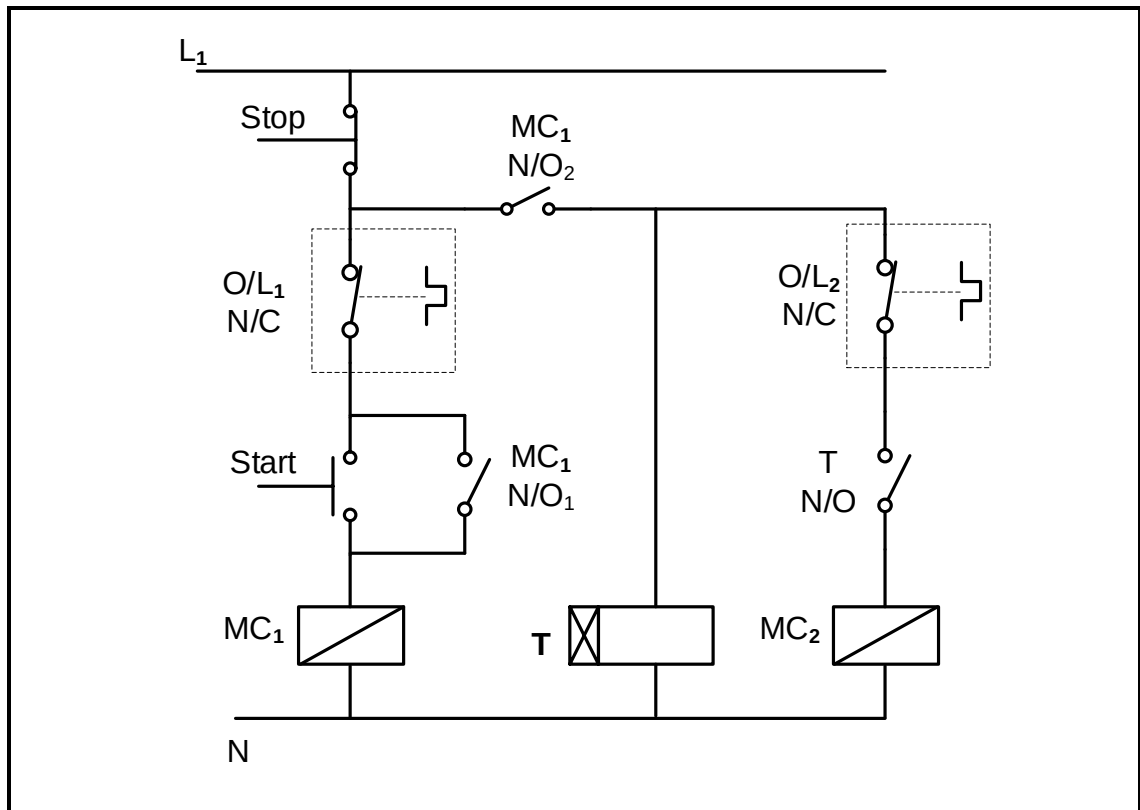
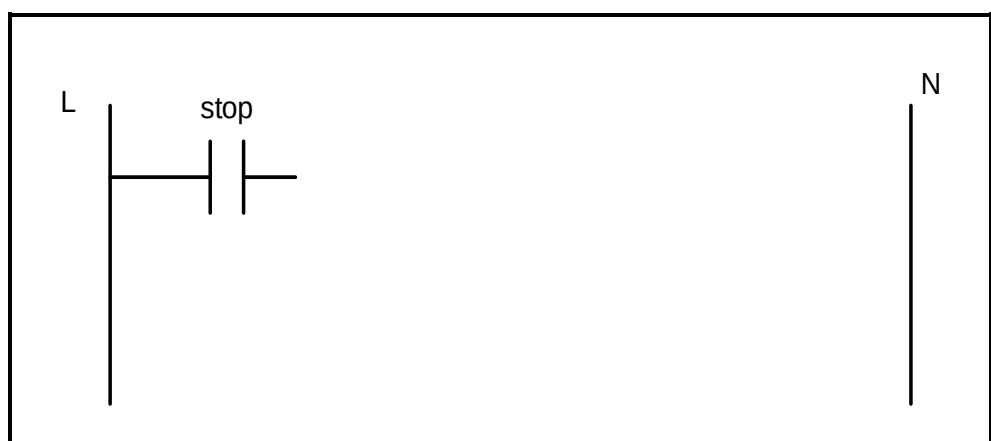

FIGURE 7.5: AUTOMATIC SEQUENCE STARTER
FIGURE 7.5.4
7.5 Refer to FIGURE 7.5 below and answer the questions that follow.
| 7.5.4 | In the ANSWER BOOK, redraw the PLC ladder logic diagram in FIGURE 7.5.4 below and complete it so as to execute the same function as the circuit in FIGURE 7.5. above. | |